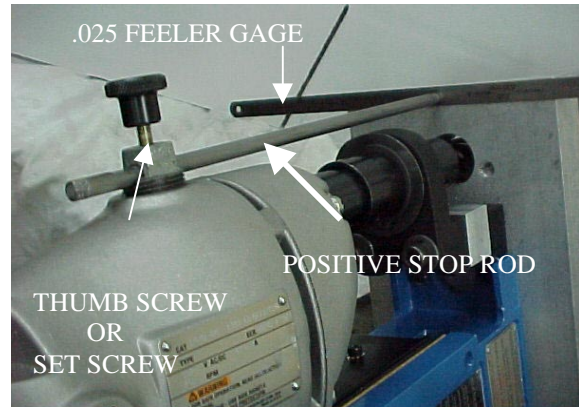

FIGURE 6
5. To set the correct depth of the spot face, position a .025 feeler gage so that it is captured between the mounting adapter surface and the end on the positive stop rod as the rod is moved forward. Lock the positive stop rod in place using the thumb screw or set screw on top of the rod adapter. See Figure 6.